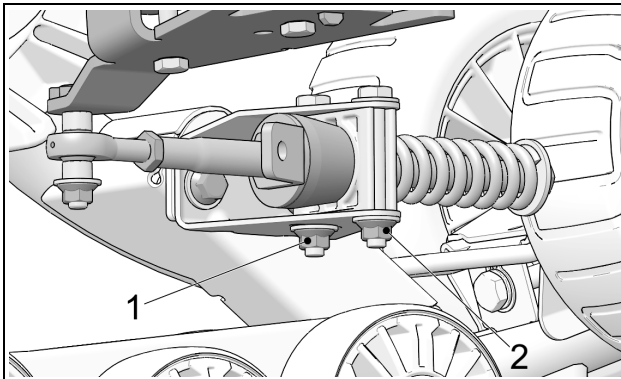

Figure 8
- Re-tighten anti-rotation bracket bolts (1) and (2) to 37 ft. lbs. (50 Nm) of torque. See Figure 8.